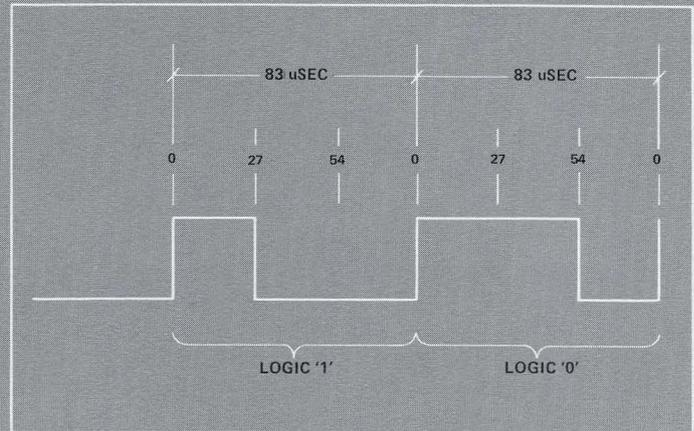

Figure 3 — Recording Technique
**RECORDING TECHNIQUE**—As shown in Figure 3, each logic bit on tape requires the space normally allotted for three flux reversals (83 microseconds). Each bit commences with a positive-going flux change. If a logic "1" bit is to be recorded, the next flux change, which is negative going, occurs at the first allowable position, in this case 27 microseconds after the positive-going change which defined the beginning of the bit. If a logic "0" bit is to be recorded, the negative-going flux change occurs at the second allowable position, in this case 54 microseconds after the beginning of the bit. Each subsequent bit which follows is recorded in the same 27-54-83 microsecond pattern as described above. A final one bit must be recorded to define the completion of a data block. (Automatically done in the MOS controller chip).